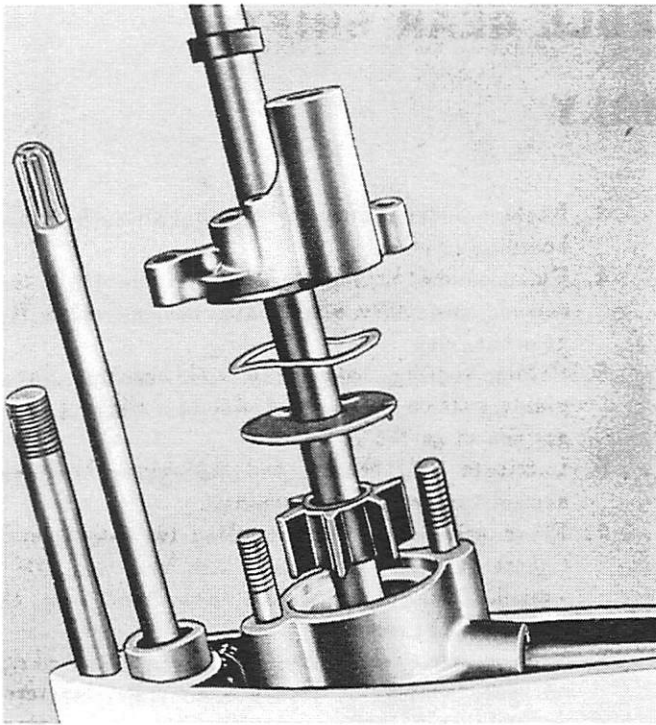

Figure 9. Installing Water Pump Body Assembly
7. Replace stainless steel face plate, wave washer, water pump cover assembly and water inlet tube. (Figure 9)